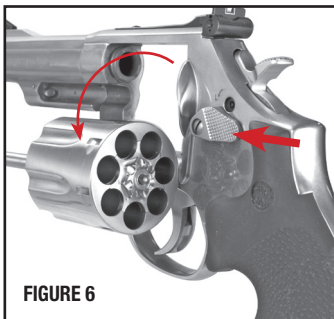

**FIGURE 5**
- With your finger off the trigger and outside of the trigger guard (FIGURE 5), keep the barrel of the firearm pointed in a safe direction. Press the thumbpiece fully forward and hold it, then push the cylinder to the left (FIGURE 6).